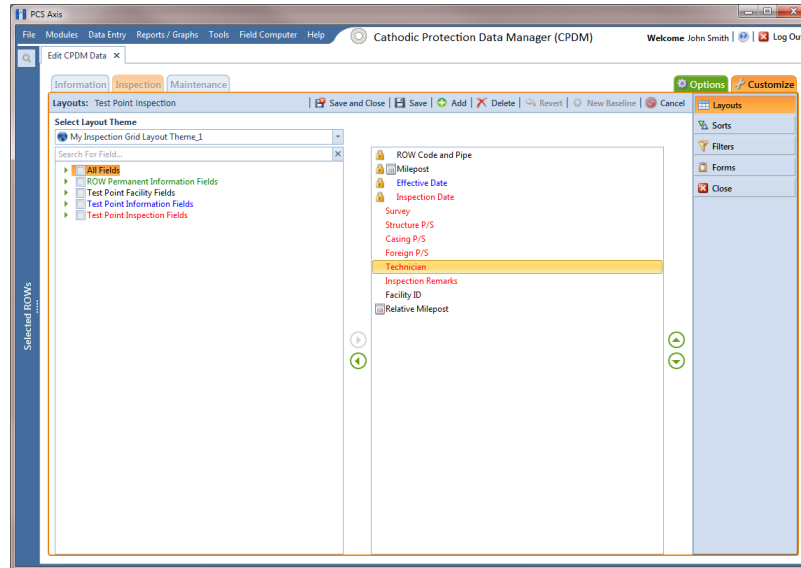

Figure 7-107. Layouts
- 9 Click  **OK** to save changes and return to the *Layouts* page (Figure 7-107).